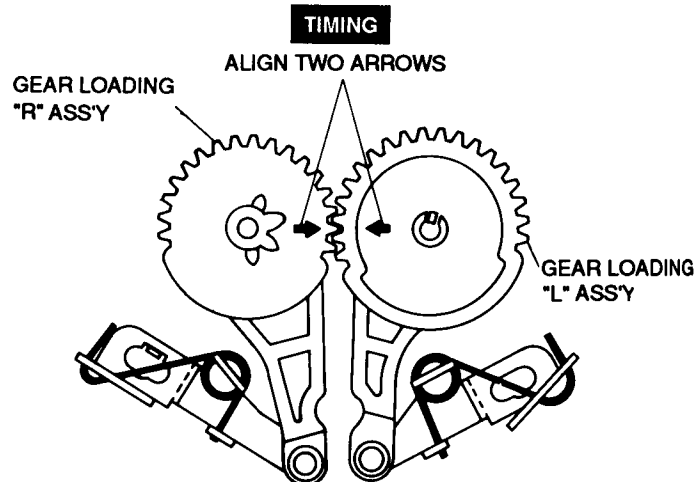

Fig. 58 Assembly of Gear Loading "L", "R" Ass'y
- 1) When reinstalling, be sure to align two arrows as shown in Fig. 58. (Refer to timing point)
- 2) Remove the slide "S", "T" from the gear loading "L", "R" ass'y. (Refer to Fig. 58)